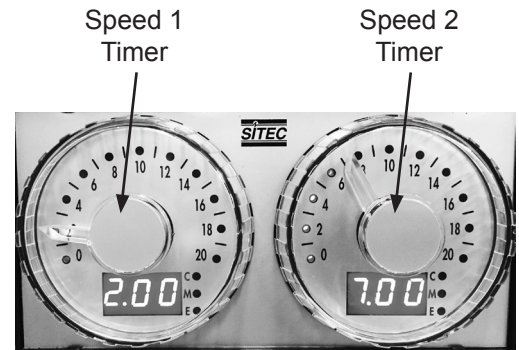

Figure 9-1.
- Set the time on the speed 1 and speed 2 timers. See Figure 9-1.